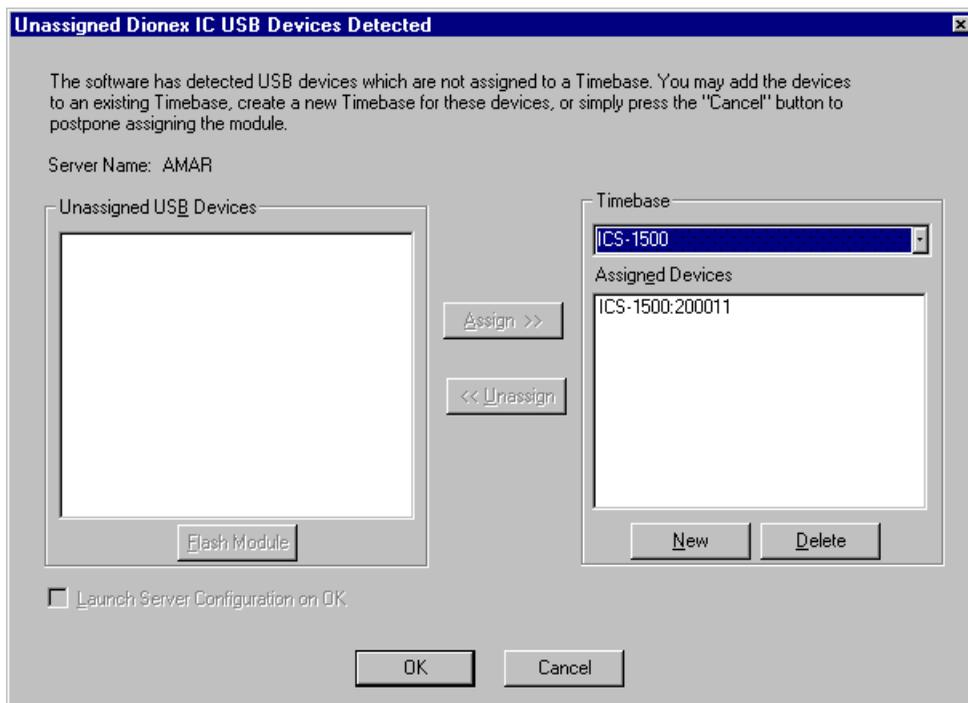

Figure B-11. ICS-1500 Assigned to a Timebase
7. In the Unassigned USB Devices box, select the ICS-1500 and then click the **Assign** button. The ICS-1500 is now assigned to the timebase (see Figure B-11). If you are installing more than one ICS-1500, you can verify the serial numbers for each by checking the label on the component panel. The serial number is also shown on the **INFORMATION** touch screen page.